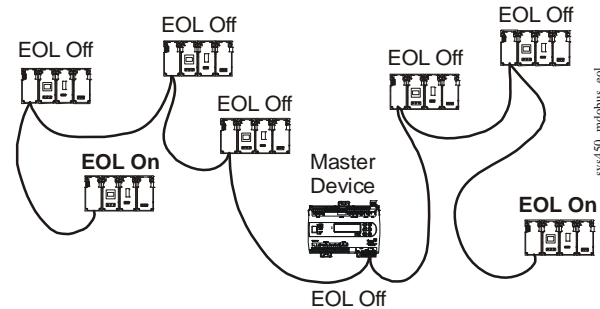
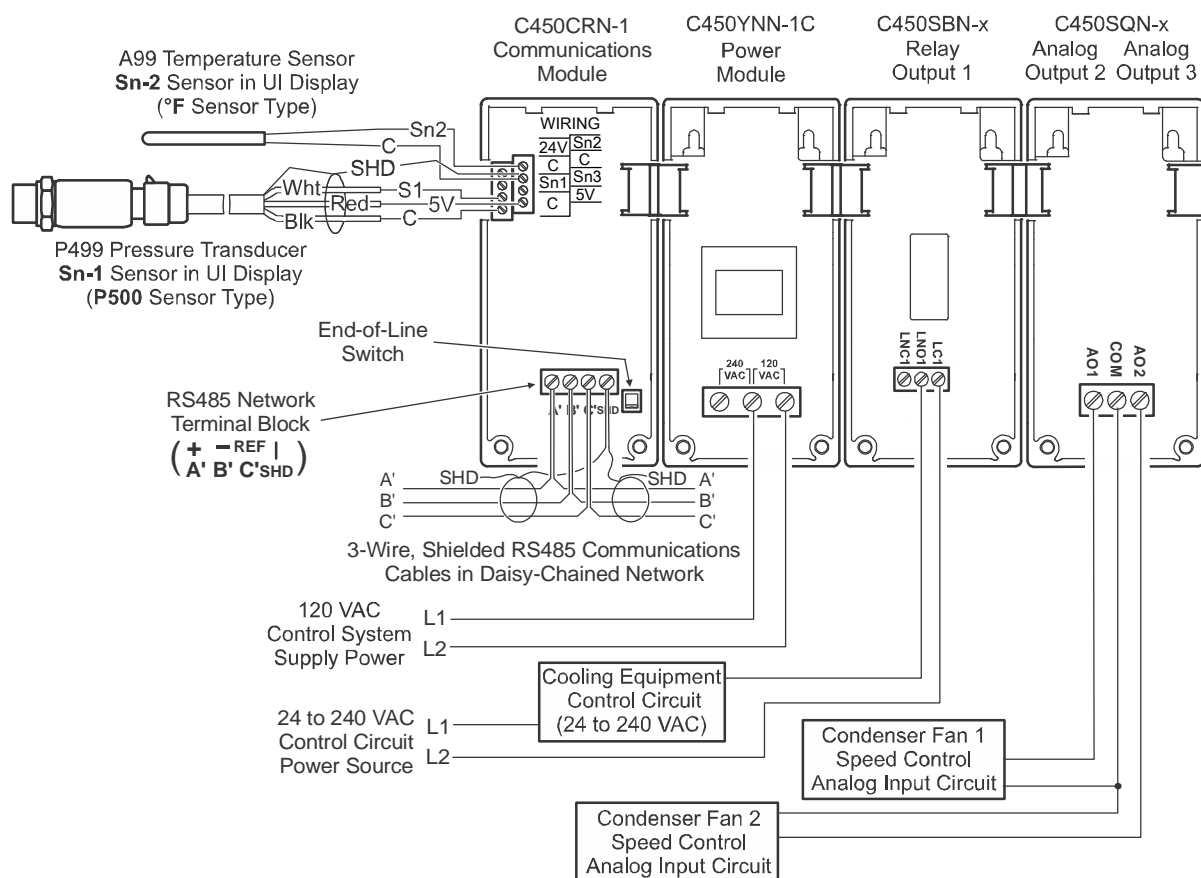

Figure 4: EOL Switch Settings on an Example Modbus Network Trunk
Figure 7: Example System 450 Control System with an RS485 Modbus Communications Module Controlling a Cooling System with Condenser Fan Speed Control
The RS-485 Modbus network terminal block is a green, 4-wire terminal block mounted on the PCB under the control module cover (Figure 7).
Each device (master or slave) connected to the end of an RS485 daisy-chain trunk must be set up as a network trunk terminating device (Figure 4). The System 450 control module with RS485 communications has an integral End-of-Line (EOL) switch, which when set to On, sets the control module as a terminating device on the trunk. See Figure 7 for the EOL switch location on the control module. The default EOL switch position is factory set to Off.
1. Determine the physical location of the System 450 control module RS485 connection on the network trunk. If the control module terminates the trunk, it must be set as a terminating device on the trunk (Figure 4).
A System 450 control system consists of one control module, one to three control sensor inputs, and one to ten outputs that provide On/Off control or analog control. Figure 7 shows an example System 450 control system module assembly, with two sensors and three outputs, connected to an RS485 communications network.